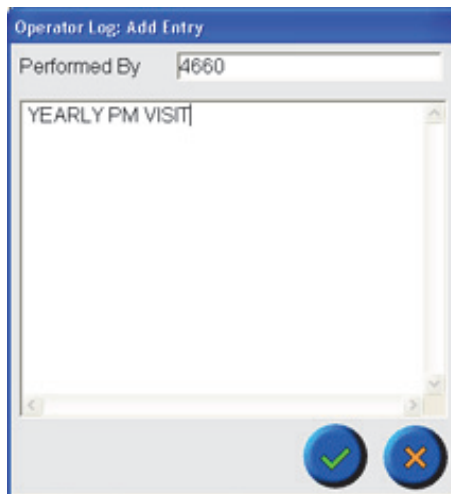

Figure 6.18. Operator Log: Add Entry dialog box
1. Press **Oper Log** to add an operator log entry. The Operator Log: Add Entry dialog box appears (Figure 6.18).